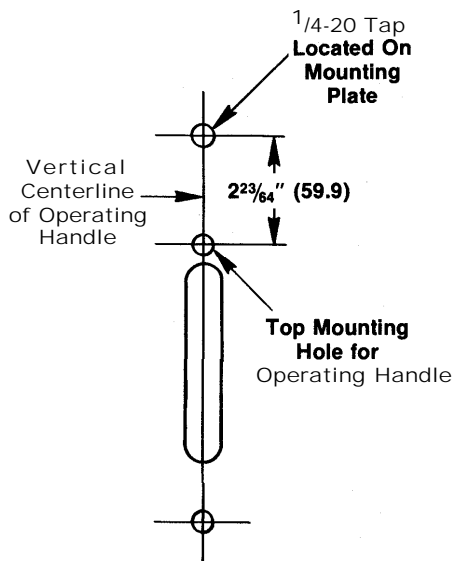

Figure 2
1. Drill and tap the $1/4-20$ hole in the mounting plate per Figure 2. Right or left-hand operation has the same drilling.